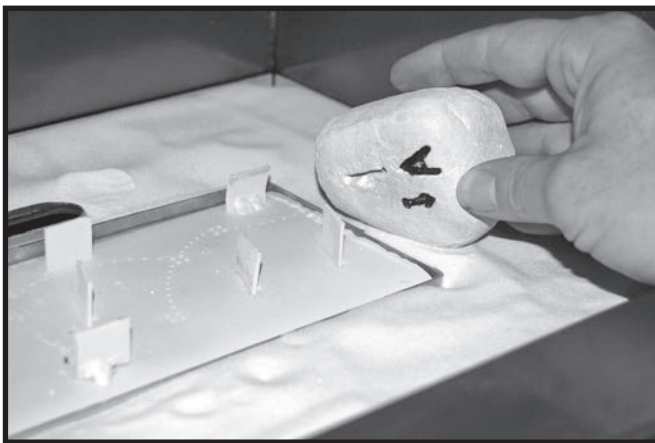

Figure 20: Rock A right side.
16. Begin by placing an “A” rock on the right hand most tab. Then work your way to the left placing the rocks as shown in Figure 20 through Figure 30.